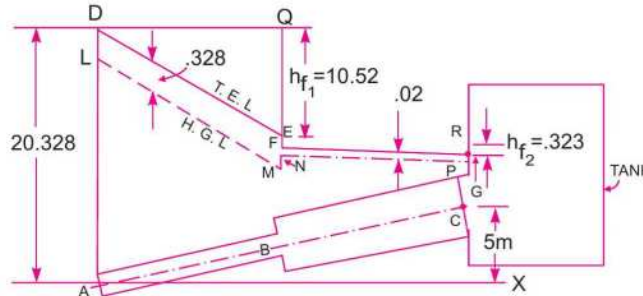

Fig. 11.11
**Total Energy Line.** Draw a horizontal line AX as shown in Fig. 11.11. The centre-line of the pipe is drawn in such a way that slope of pipe is 1 in 40. Thus the point C will be at a height of  $\frac{1}{40} \times 200 = 5 \text{ m}$  from the line AX. Now draw a vertical line AD equal to total energy at A, i.e., AD = 20.328 m. From point D, draw a horizontal line and from point B, a vertical line, meeting at Q. From Q, take vertical distance QE =  $h_{f1} = 10.52 \text{ m}$ . Join DE. From E, take EF =  $h_e = 0.186 \text{ m}$ . From F, draw a horizontal line and from C, a vertical line meeting at R. From R take RG =  $h_{f2} = 0.323 \text{ m}$ . Join F to G. Then DEFG represents the total energy line.